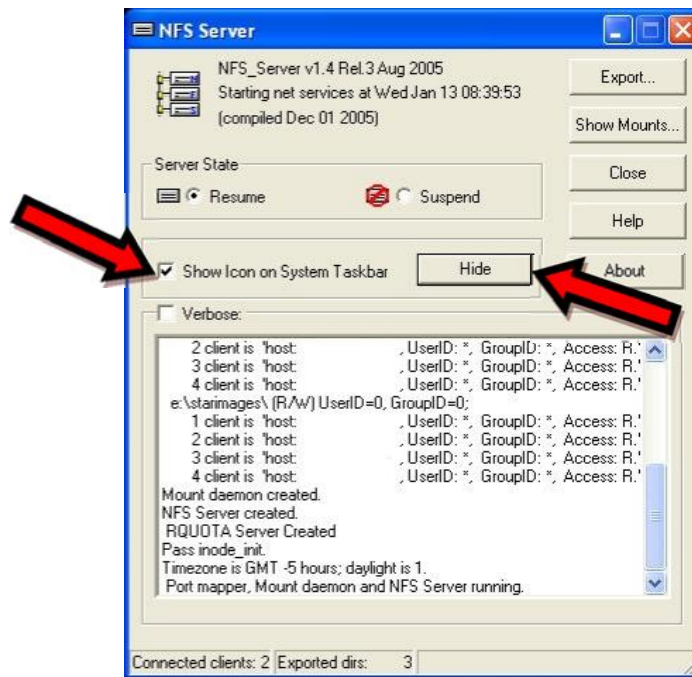

Figure 3-7: NFS Server Window
6. **Ensure that the NFS server is running on the Camera computer** – Double click the NFS server icon (shown at right). If the software is already running, a window should pop up and immediately disappear. However, if the window stays up, you will need to set up the NFS server so that the Camera computer can send and receive data (Figure 3-7). To set up the NFS server: